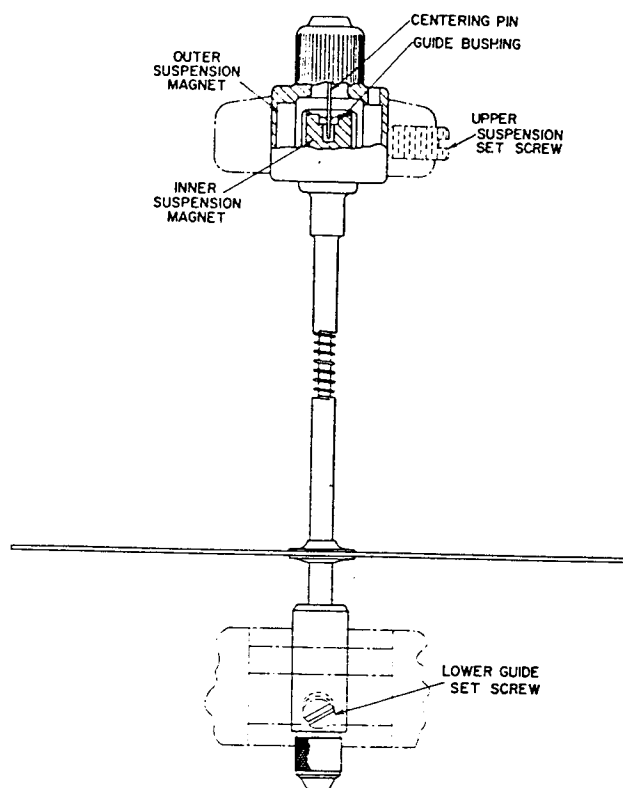

Fig. 3. Magnetic suspension system
With the meter in its normal operating position, inspection can be made as follows (see Fig. 3):
2. Loosen the lower guide setscrew (Fig. 3) and remove the lower guide.
Assemble the suspension system as follows (see Fig. 3):